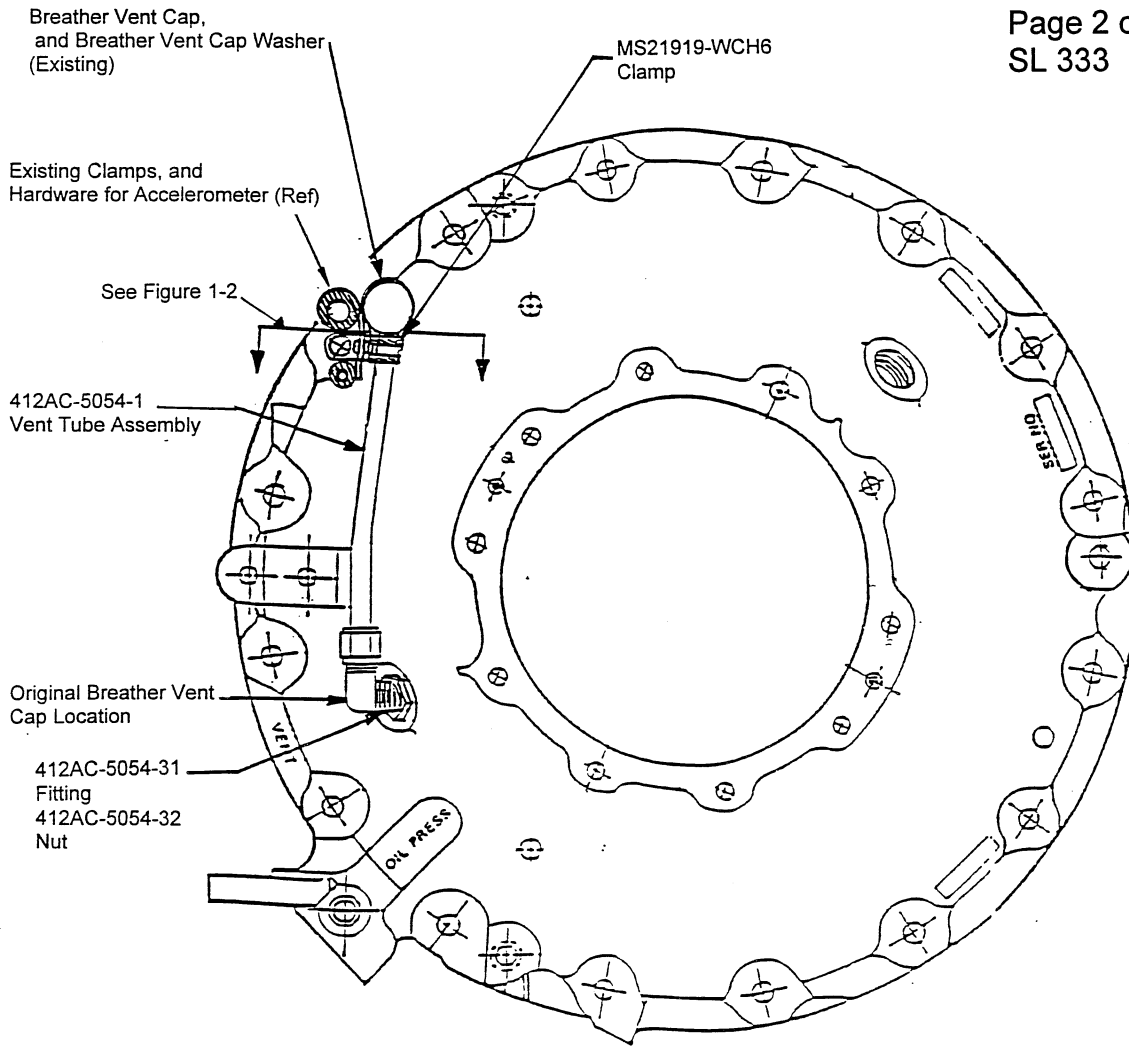

Figure 1-1
1. Remove existing Main Transmission Breather Vent Cap, and Breather Vent Cap Washer from the vent opening located in the top aft right hand section of the Main Transmission Housing. (See Figure 1-1)